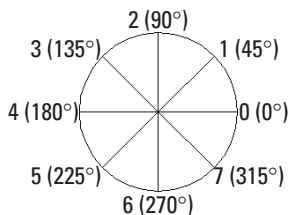

Figure 32-4: The codes for octant arcs
- ♦ The seventh and eighth codes (3,016) specify an arc with a radius of 3 that starts at octant 1 and covers 6 octants (to octant 7). (See Figure 32-4 to review the octant codes.)